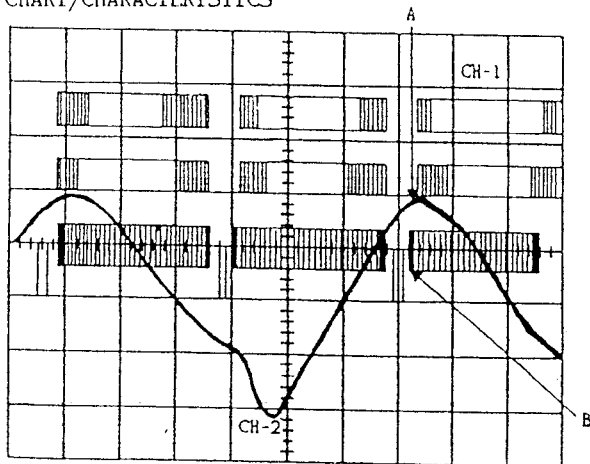

Fig. 28 CH-1 1V 20 μ s/div
- (1) Connect CH-1 of oscilloscope to TP4201 and CH-2 of oscilloscope to TP3702.
- (2) Adjust L3702 so that peak of waveform A and leading edge of video signal of waveform B may become same as shown in Fig. 28.
■ E-28-2: SECAM IDENTIFICATION (2) ADJUSTMENT